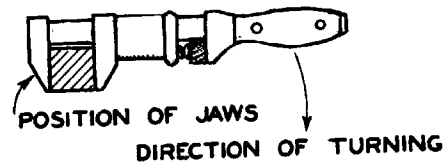

FIG. 7 MONKEY WRENCH
1. Place the wrench on the part to be moved with the jaws in the direction in which the work is to be turned (Figure 7).